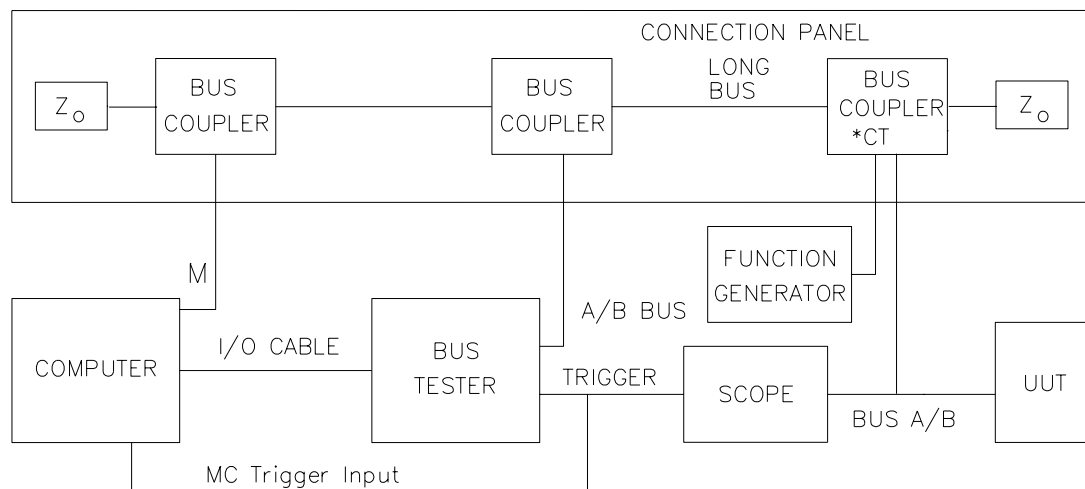
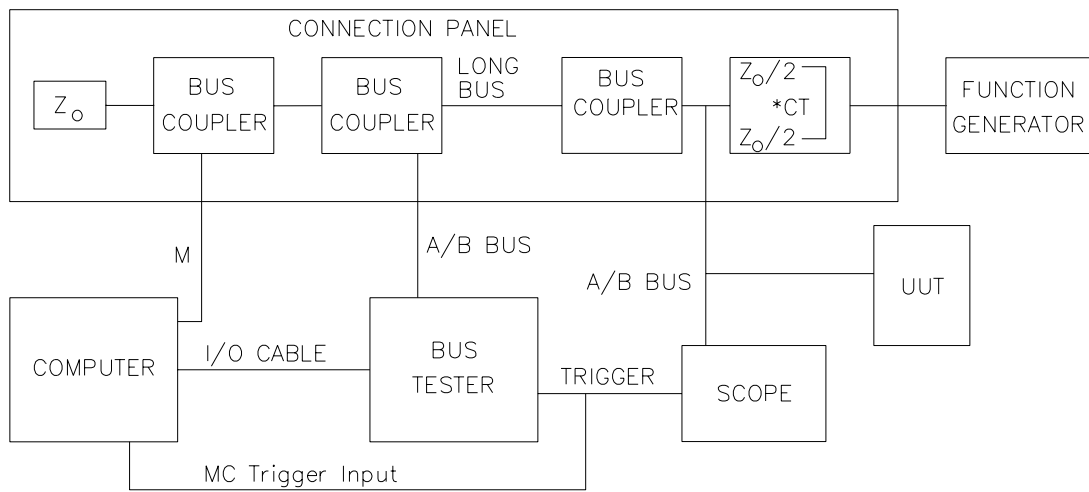

Figure 7. Common Mode Rejection Transformer Coupled Configuration
Figure 8. Common Mode Rejection Direct Coupled Configuration
1. Connect the equipment as shown in Figure 7 or Figure 8 (Figure 6A or Figure 6B in the RT Validation Test Plan, respectively) for transformer coupling or direct coupling for the bus to be tested. This test uses special center-tapped (*CT) bus couplers (transformer coupling) or special center-tapped (*CT) terminating resistors (direct coupling). If the test fails, connect a small capacitor (approximately 47 pf) at the UUT stub connection from the high side to the shield to compensate for the higher capacitance in the connectors from the low side to the shield. This capacitance differential creates a differential signal from the applied common mode signal.